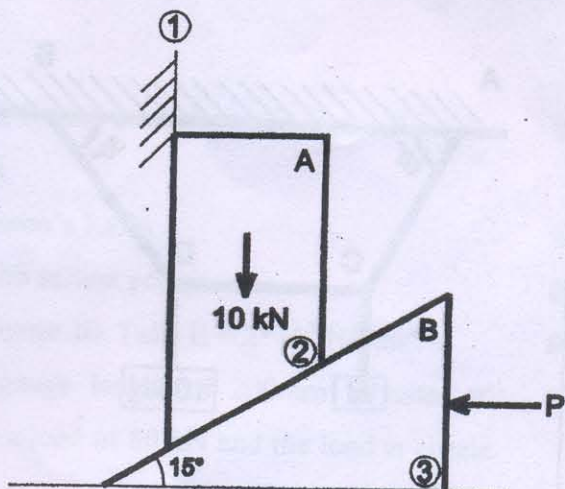

Figure 8
- Q. 3 (a) Block A, weighing 10 kN is to be raised against a vertical wall as shown in figure 8 by means of 15° wedge B. Find the smallest horizontal force P required to raise the block A. Take coefficient of friction 0.2 at all contact surfaces. 07